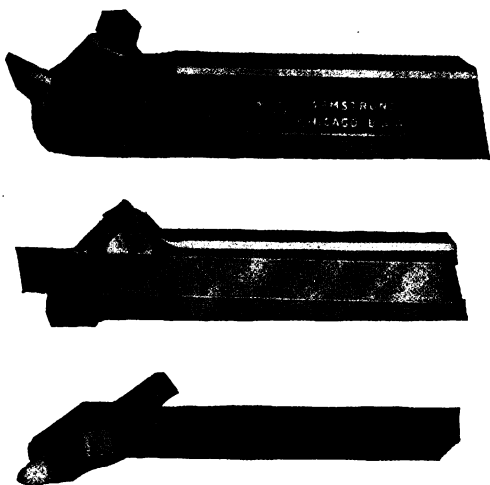

Fig. 64. Typical Lathe Tools
**Lathe Tools.** It is with the tools for the lathe that the amateur repair man finds his greatest difficulties. Only the most important points in tool use can be touched upon because of the limited scope of this article. Many shapes and sizes in cutting tools may be fitted for various jobs which one encounters but the standard tools will be found satisfactory for most jobs. Tool-holders for holding tungsten steel cutters are very useful and are probably more convenient than the usual lathe tools because the cutters do not have to be sharpened so often. In Fig. 64 are shown three typical forms of cutting tools. The first is a holder with straight body; the second, a cutting-off tool; and the third, a right-hand holder (left-hand holders are also available). There are a num-